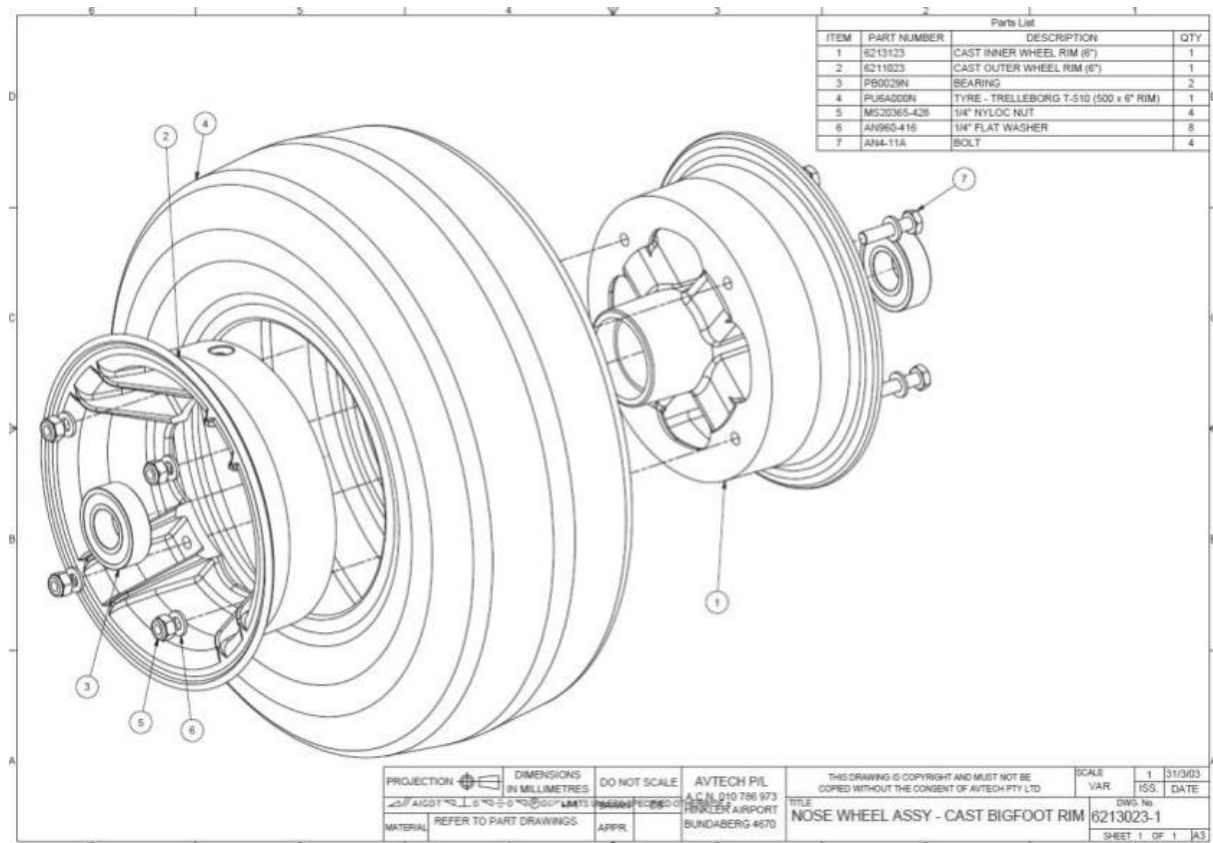

Figure 78 – Nose Wheel Hub Assembly
- Figure 78 shows a typical installation. While details and part numbers vary from model to model the general arrangement shown applies to all aircraft.